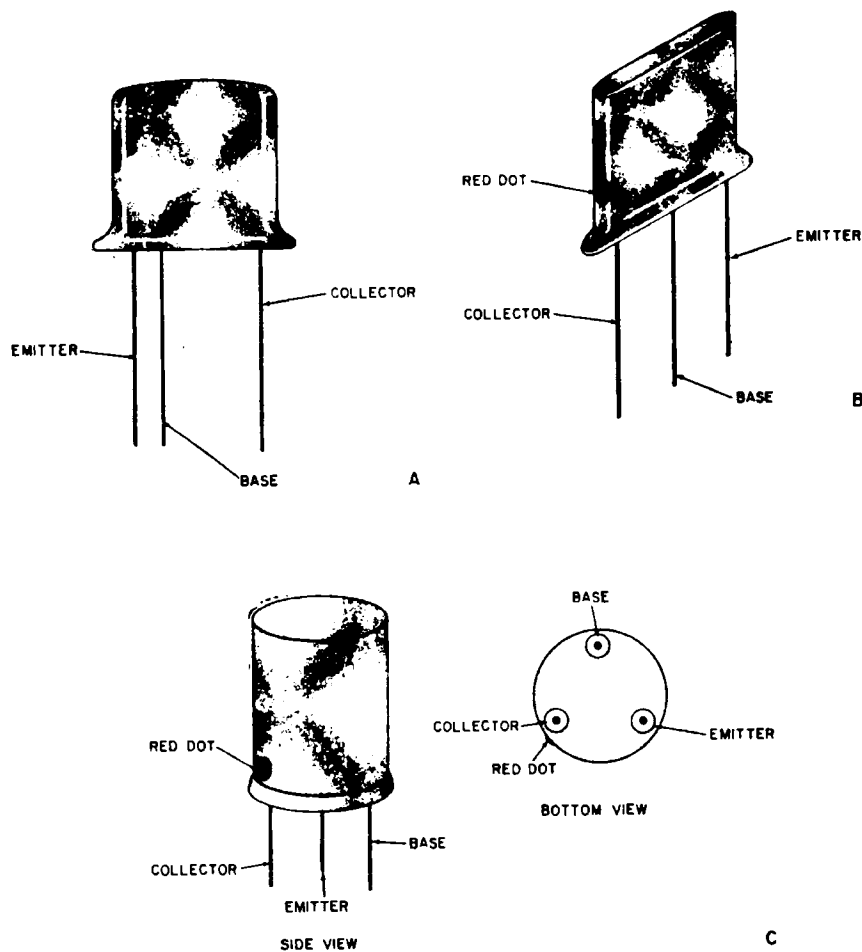
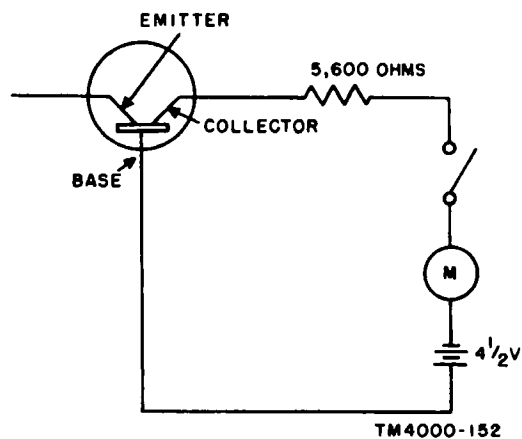

Figure 115. Identifying transistor leads.
Figure 116. Test circuit to determine transistor type.
- (3) When checking the bias voltages on any transistor, two facts must be determined. First, the leads must be identified. Second, it must be determined whether the transistor is of the *NPN* or *PNP* type. If these facts are not apparent from labeling they can usually be determined by the following means: To identify the leads examine their spacing at the point where they enter the transistor. If they are unequally spaced (A, fig. 115), the closer leads are the emitter and base with the emitter being at the outside. The third lead, widely spaced from the other two, is the collector. If the leads are equally spaced, look for a red dot on one edge of the transistor (B, fig. 115). The lead closest to the dot is the collector while the base and emitter leads follow in order. If the transistor is cylindrical in shape, look for a red dot on the side at the lower edge. The
pin adjacent to this dot is the collector. The base and emitter follow in a clockwise direction, when the transistor is viewed from the bottom (C, fig. 115). To determine whether a transistor is of the *NPN* or *PNP* type connect a switch, 5,600-ohm resistor, 4½-volt battery, meter, and the transistor to be tested as shown in figure 116. (Before removing a transistor from a circuit, refer to par. 324.) Set the meter to a scale capable of indicating a dc current of 1 milliamperes and close the switch. If the transistor is of the *NPN* type, the diode section composed of the base and collector regions will be biased in the forward direction. With forward bias the diode can pass a comparatively large current. The meter will indicate approximately 1 milliamperes. If the transistor is of the *PNP* type the diode section will have a reverse bias applied. In this case only a small leakage cur-